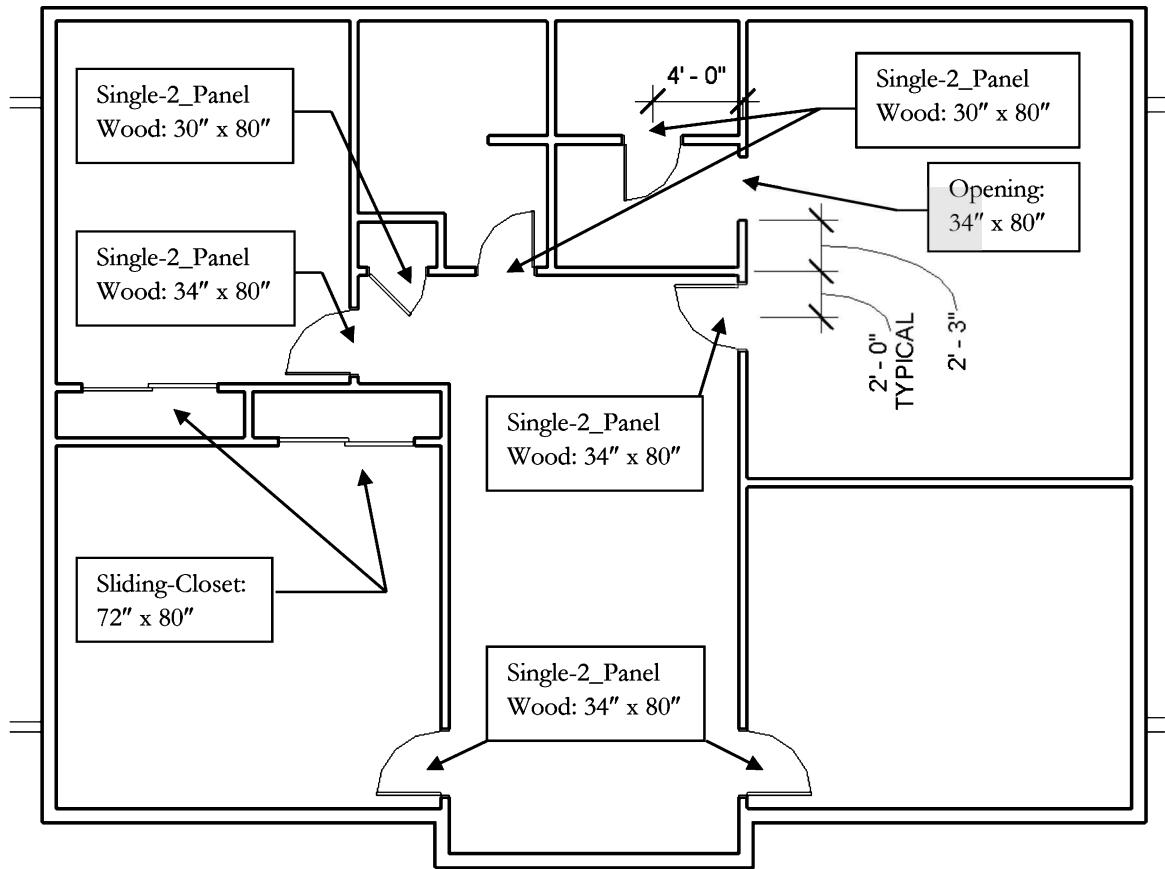

FIGURE 6-3.1 Second Floor; doors added
3. Add the doors as shown in Figure 6-3.1: